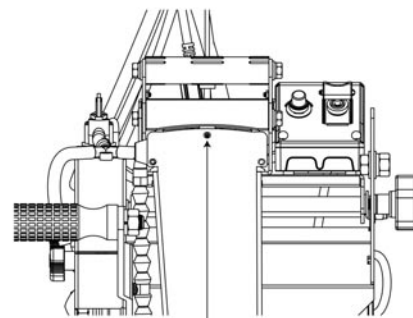

Fig. 14
1. Loosen the bolts that secure the bridge. (see figure 14) **DO NOT REMOVE THE BOLTS AS THE BRIDGE AND CUTTING HEAD WILL FALL.**
3. Now if the cutting fence does not move enough to align the cutting head, the bridge may be shifted as shown in figure 14.